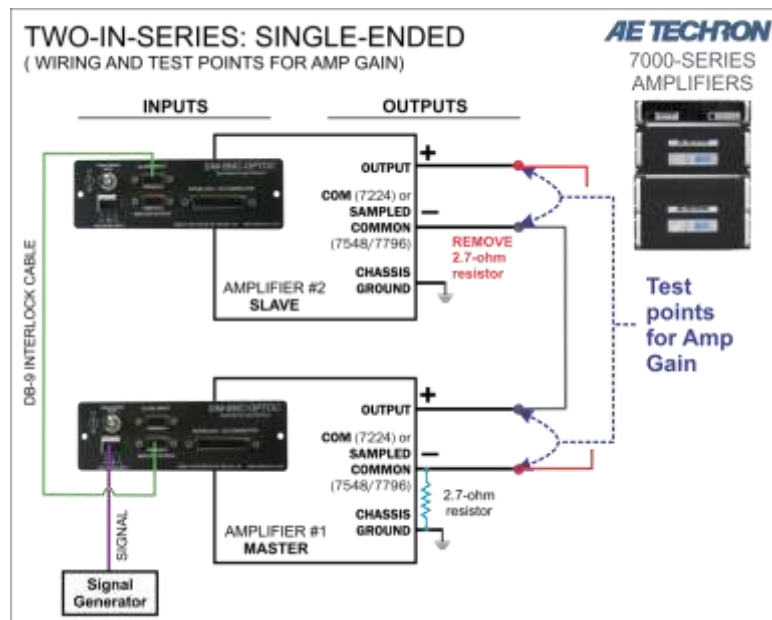

Figure 3.14 – Verifying Amp Gain
2. Apply a sine wave of 5Vrms at 100 Hz at the Master amplifier input. Using a voltmeter measure across each amplifier's back-panel output connector terminals (OUTPUT to COM or SAMPLED COMMON) to verify an output from each amplifier of approximately 100Vrms (gain of 20). See **Figure 3.14**. NOTE: If any amplifier's gain varies significantly from the set gain of 20, the amplifier may require servicing. Contact AE Techron Technical Support.